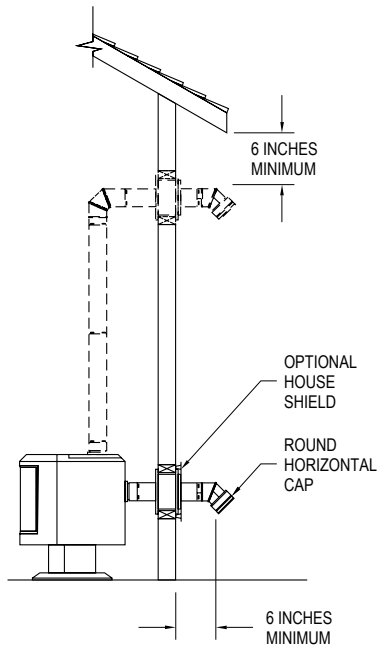

Figure 6
5. If the flue exit is on back of the stove, and a horizontal through-the-wall installation is desired (**Figure 6**):
B. Connect the Appliance Adapter to back of stove and attach sufficient pipe to penetrate Wall Thimble and extend at least 6" beyond the exterior wall. You may install the optional House Shield as shown in **Figure 6**. The House Shield is used to protect the exterior wall from vent discharge. Attach a Round Horizontal Cap. The Round Horizontal Cap can be swiveled to be directed away from nearby objects (fence, plants, etc.), but must still be pointing in a generally downward direction. Important: Horizontal Caps must be pointed in a generally downward direction to insure rain and snow do not enter the cap, and cause potential damage to the appliance. Vent Cap should be at least 6" from the wall.